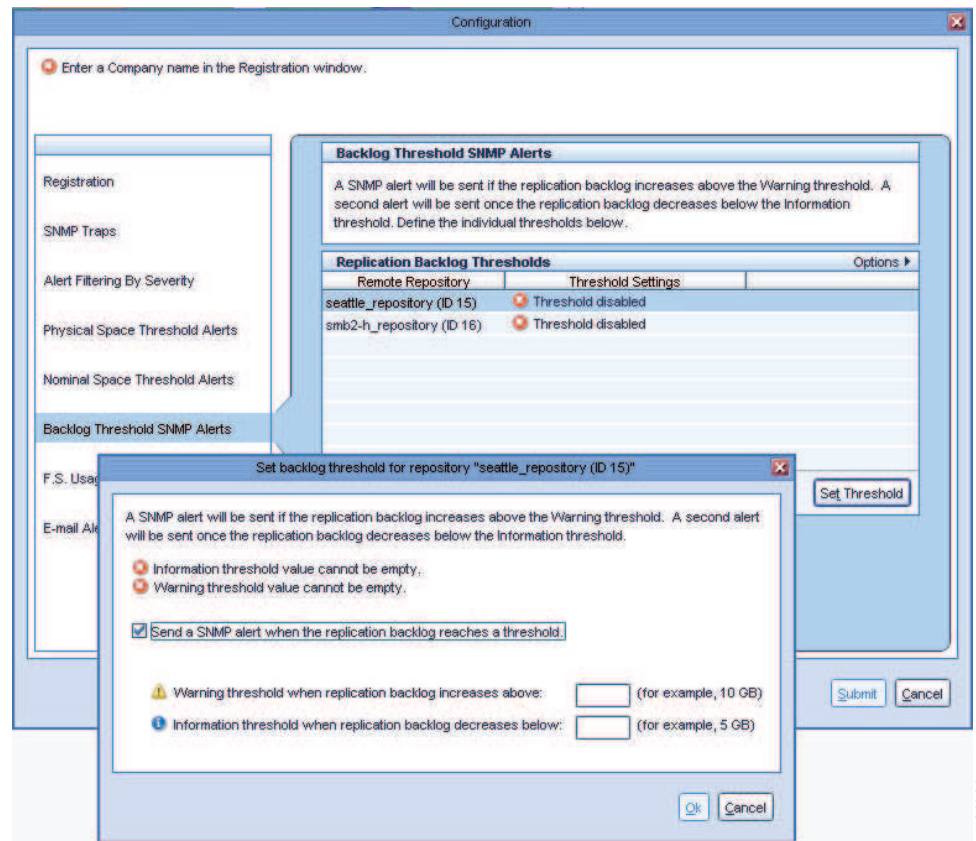

Figure 73. Set backlog threshold for repository
21. From the **Replication Backlog Thresholds** pane, select the remote repository on which to set the backlog threshold and click **Set Threshold**. The **Set backlog threshold for repository** window is displayed, as shown in Figure 73 on page 189: